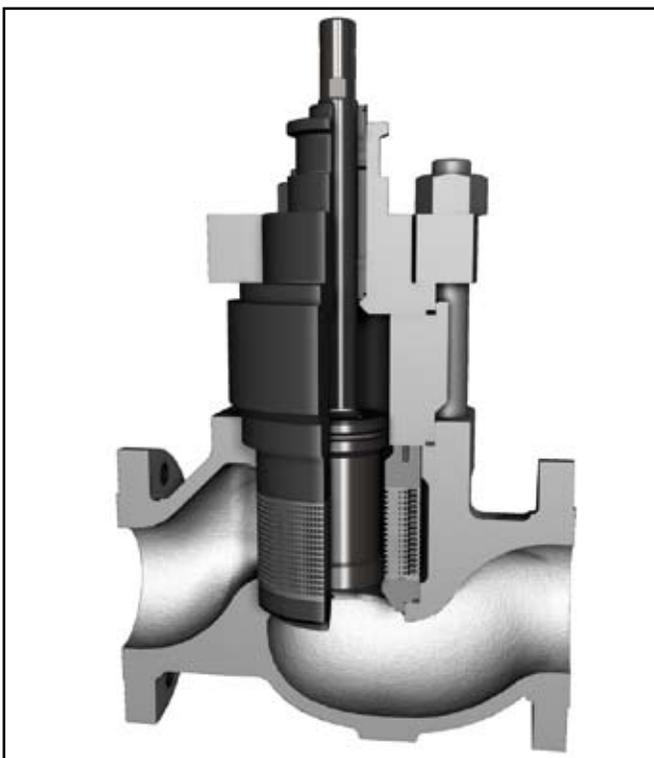

Figure 9
8.4.1. Stealth replaces the standard Mark One retainer with a braided, stacked-disk retainer, see Figure 9. Several of the parts, including the plug, seat ring and bonnet have dimensional differences from the standard Mark One design. Assembly and disassembly of the valve follows the standard procedures.